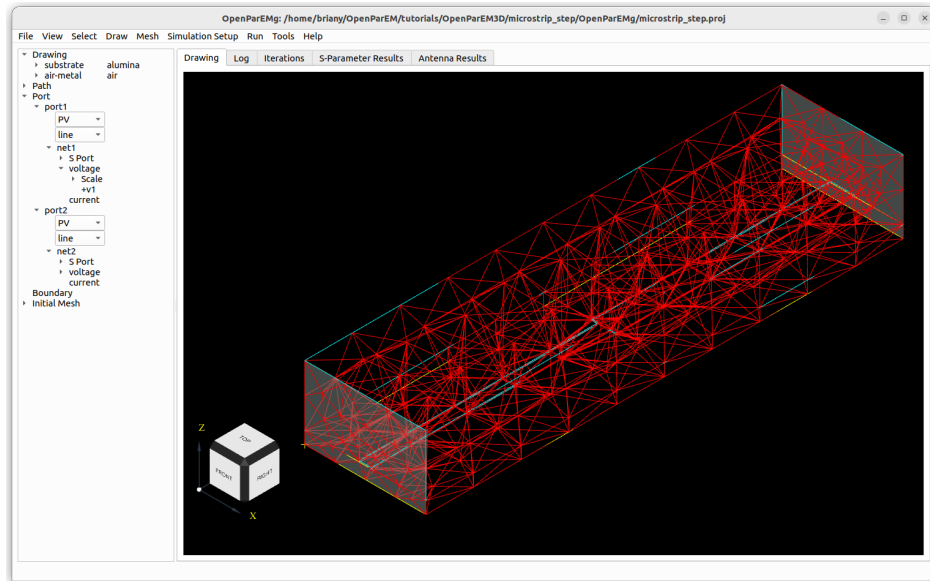

Figure 12: Meshed microstrip step.
- Select **Mesh**→**Generate**. The mesh should appear as in Fig. 12.